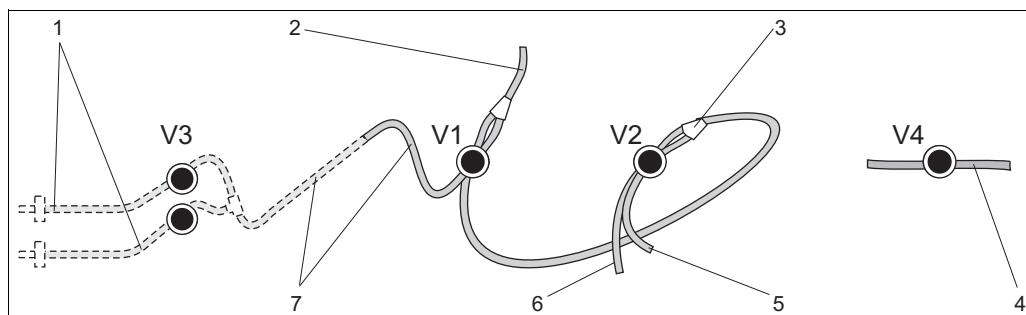

Fig. 11: Valves and valve hoses
- Insert the valve hoses according to Fig. 11. This prevents the hoses becoming stuck or being pressed against the same position for a long period of time.